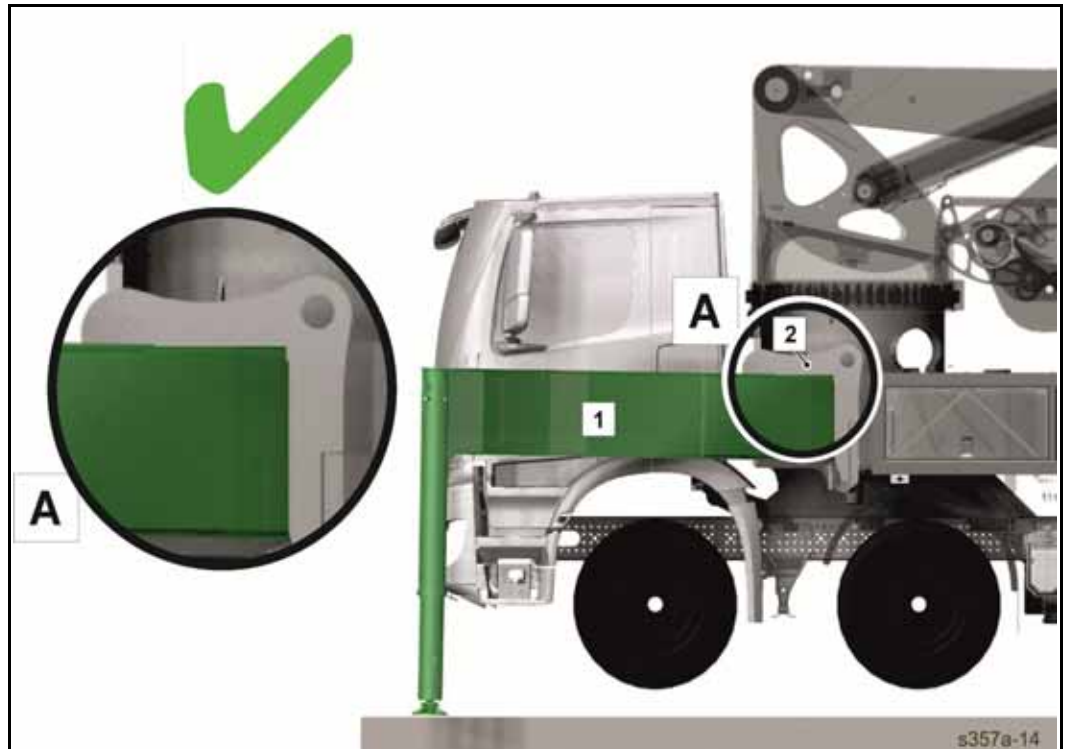

Fig. 144 Example of correct distance between outrigger and base frame
- Note that there is no space between the supports (1) and base frames (2) after being raised (none of the vehicle wheels are touching the ground), see **(Fig. 143)** and **(Fig. 144)**. Should one of the outrigger stands not be in contact with the base frame, extend the outrigger leg further until the outrigger stand is in contact with the base frame.
Caption (Fig. 144)